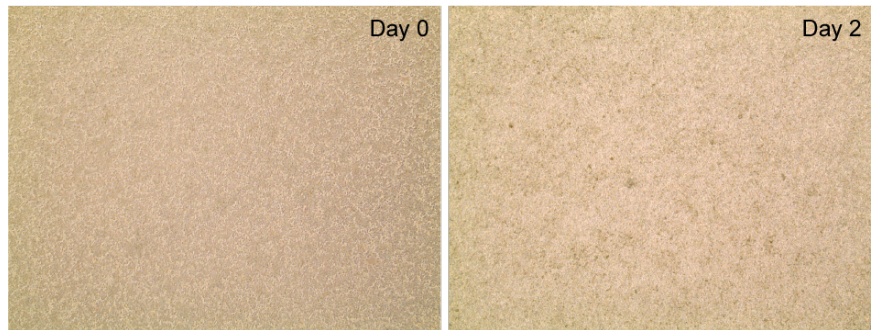

Figure 3: Definitive endoderm induction.
- Incubate for 24h, move to Step6. (Fig.3)